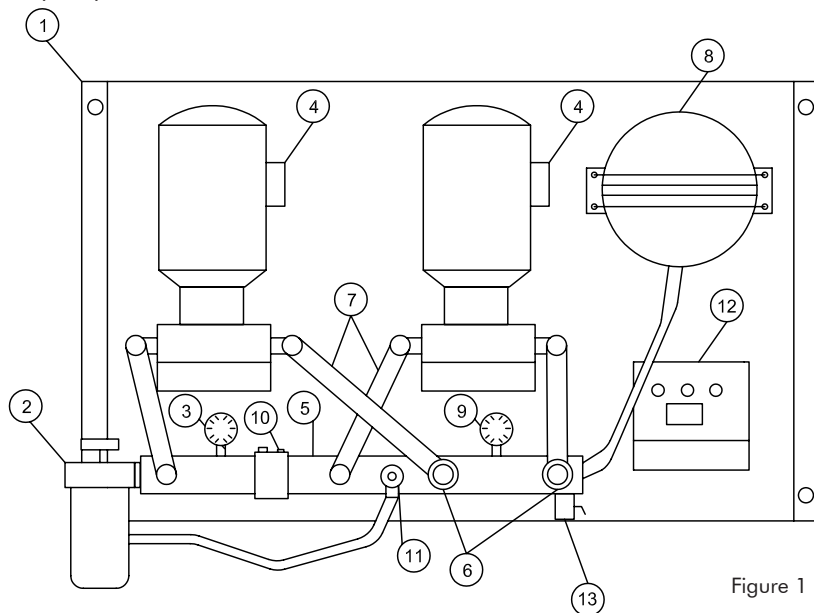

Figure 1
1. Connection of aspiration piping between the equipment (see Figure 1, Point 2) and the tank, employing copper piping (recommended) and compression connectors in order to guarantee good sealing.
1. Connection of impulsion piping between the pressure equipment, see Figure 1, Point 13 and the consumption point using copper piping and include the necessary elements for feed the one or two-stage burners, see page 5, standby generators (tanks), see page 5 or modulating burners, see page 6.